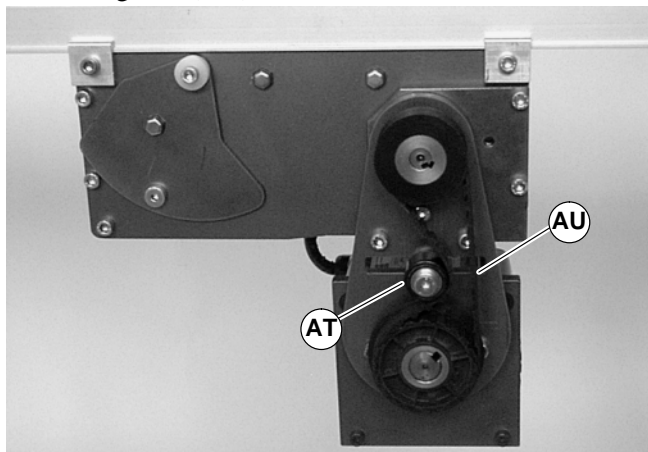

Figure 23
2. Loosen belt tensioner (AT of Figure 23) then remove timing belt (AU).